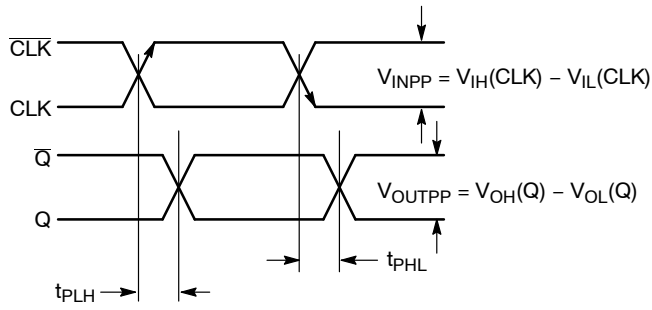

Figure 14. AC Reference Measurement
27. See Figure 14. t_{SKEW} = |t_{PLH} - t_{PHL}| for a nominal 50% differential clock input waveform.
31. See Figure 14. $t_{SKEW} = |t_{PLH} - t_{PHL}|$ for a nominal 50% differential clock input waveform.